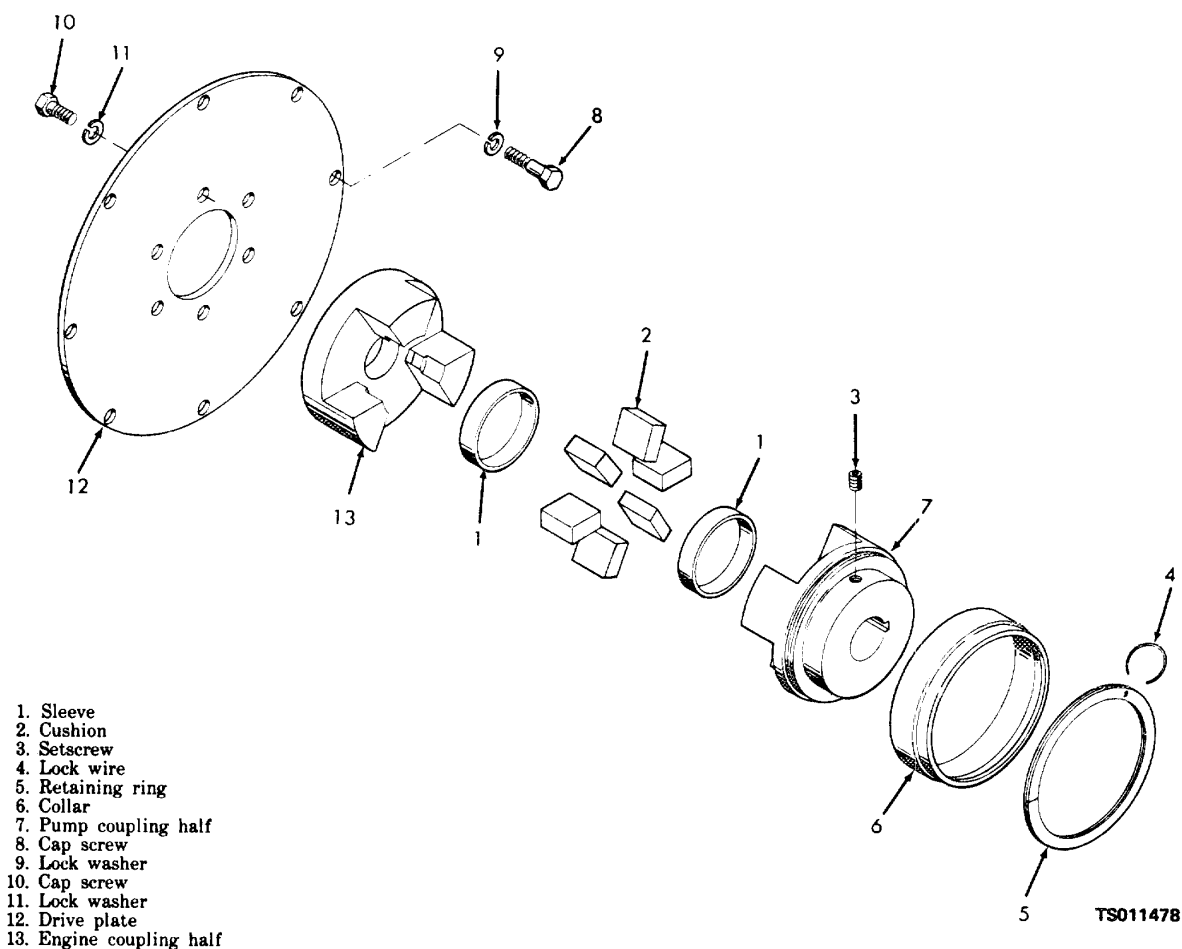

Figure 2-22. Pump coupling, exploded view
(1) Remove the assembled pump and bearing housing from the engine and chassis frame as directed in paragraph 2-9. The one half of the coupling assembly will remain with the engine; the other half will remain with the pump.
(2) Remove the sleeves (1, fig. 2-22) to release the cushions (2) from the coupling halves (7 and 13).
(1) Position the coupling half (13, fig. 2-22) on the drive plate (12); secure with six cap screws (10) and lock washers (11).
(2) Position the assembled drive plate and coupling half on the engine flywheel; secure with eight cap screws (8) and lock washers (9).
(3) Position the collar (6) on the coupling half (7); secure with the retaining ring (5). Make sure the retaining ring is fully seated in the ring groove and install the lock wire (4) into the retaining ring.
(4) Position the assembled coupling half (7) and collar (6) on the end of the impeller shaft so that the keyway engages the key on the shaft. Secure with the setscrew (3).
(5) Install three cushions (2) on each coupling half; secure each with a sleeve (1).
(6) Install the assembled pump and bearing housing onto the engine and chassis frame (para 2-9).